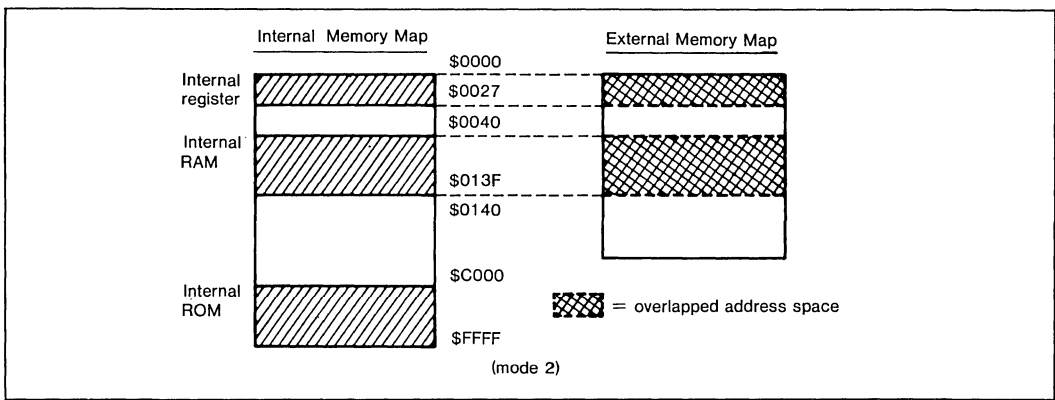

Figure III-6. Overlapping Addresses
**Question:** When using external memory at the addresses shown below in expanded modes (modes 1, 2), some addresses overlap internal registers and RAM addresses (figure III-6). In such a case, are there any problems?